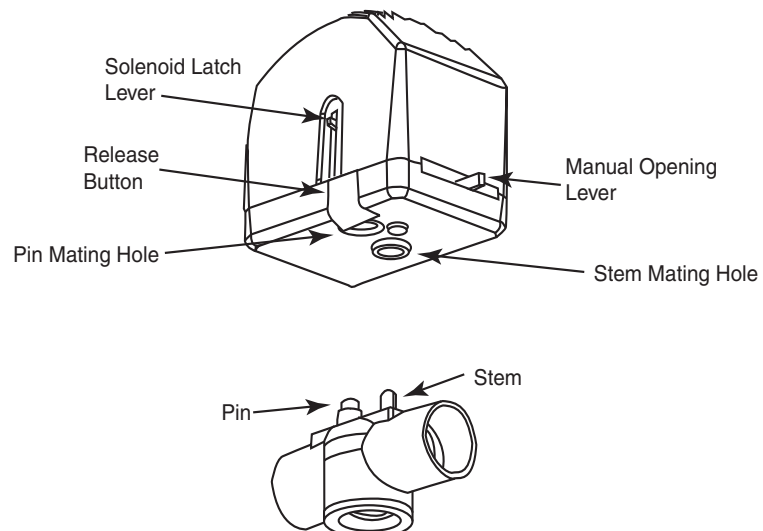

Figure-9 Three-Way Spring Return Valves.
2. With the valve in the mid-position, latch the solenoid by placing the manual solenoid latch lever in the "Up" position. Then, detach the actuator by depressing the release button and pulling it away from the valve body (Figure-9).
When installing threaded valves, the actuator should be detached from the valve body to ease installation. To do so, first slowly move the actuator's manual operating lever (on the front of the actuator) to the middle position. Then latch the solenoid by placing the red manual solenoid latch lever on the side of the actuator to the "Up" position. Finally detach the actuator by depressing the release button and pulling the actuator away from the valve body (Figure-9).
1. Before reinstalling the actuator, be sure that its manual operating lever is in the mid-position, and that the solenoid is latched. The solenoid is latched when the manual solenoid latch lever is in its "Up" position (Figure-9).
3. Align the valve body with the actuator to ensure the stem is inserted into the large mating hole on the bottom side of the actuator (Figure-9).